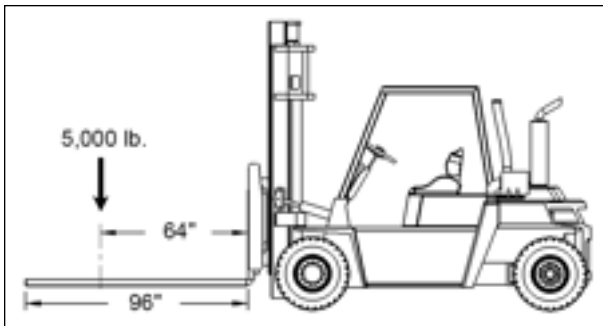

FIGURE 17: FORKLIFT MINIMAL LOAD AT 64"
- A minimal capacity of 5,000 lb. (2,268 kg) at 64" (1.6 m) with 96" (2.44 m) extension forks see Figure 17.